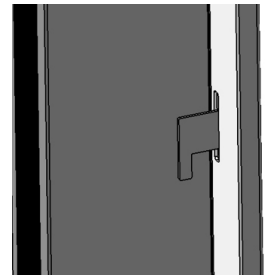

Fig. 25
- 25. a. Slide the left Side Trim into place by carefully guiding the Side Trim Attachment slots. Fig. 25 shows an inside view.